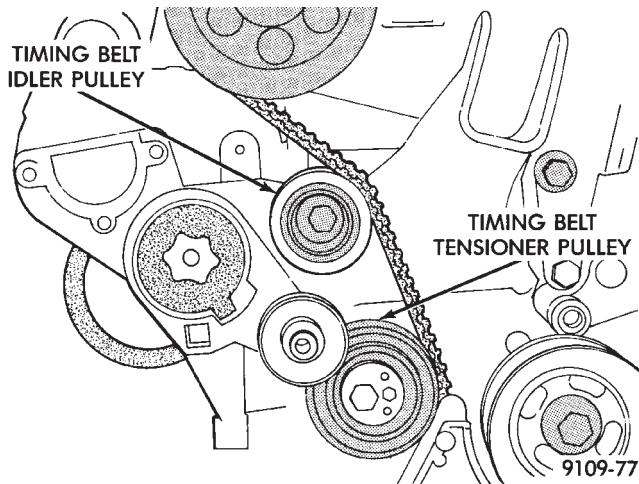

Fig. 12 Power Steering Pump Bracket and Timing Belt Idler Bolt
- (5) Loosen timing belt tension. Refer to Camshaft and Crankshaft Timing Service for procedure. Remove timing belt idler pulley bolt (Fig. 12).
- (3) Tighten timing belt idler pulley and tighten to 54 N•m (40 ft. lbs.) (Fig. 12).